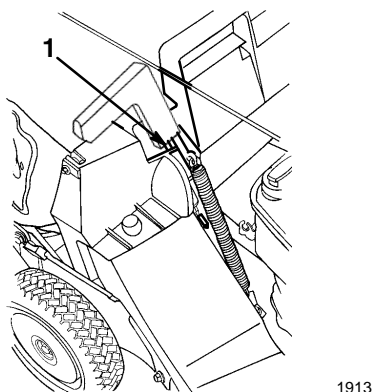

Figure 15
5. Pull the discharge door handle forward and move the handle rearward until the pin locks in the bag notch (Fig. 15).